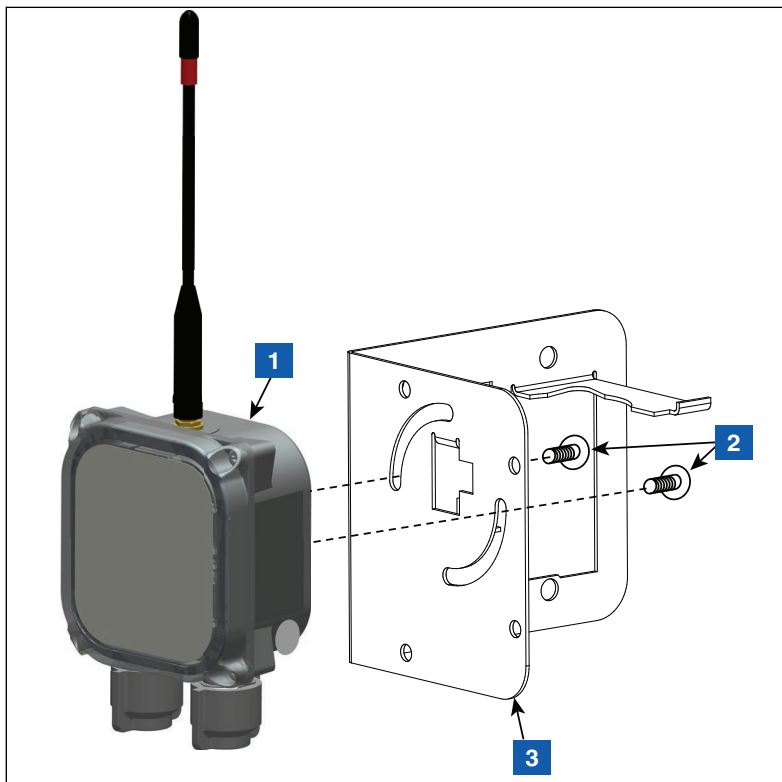

Figure 30. Attach Transmitter to 332295-001 Bracket
3. Attach Transmitter to support bracket as shown in Figure 30.
LEGEND FOR NUMBERED BOXES IN Figure 30